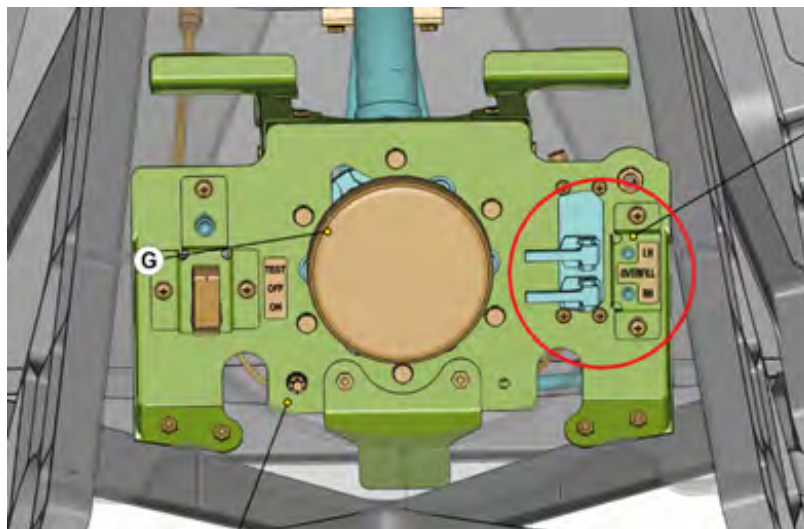

Figure 2
- (i) Make sure that the two pre-check valve levers are closed. Reference Figure 2 of this section.